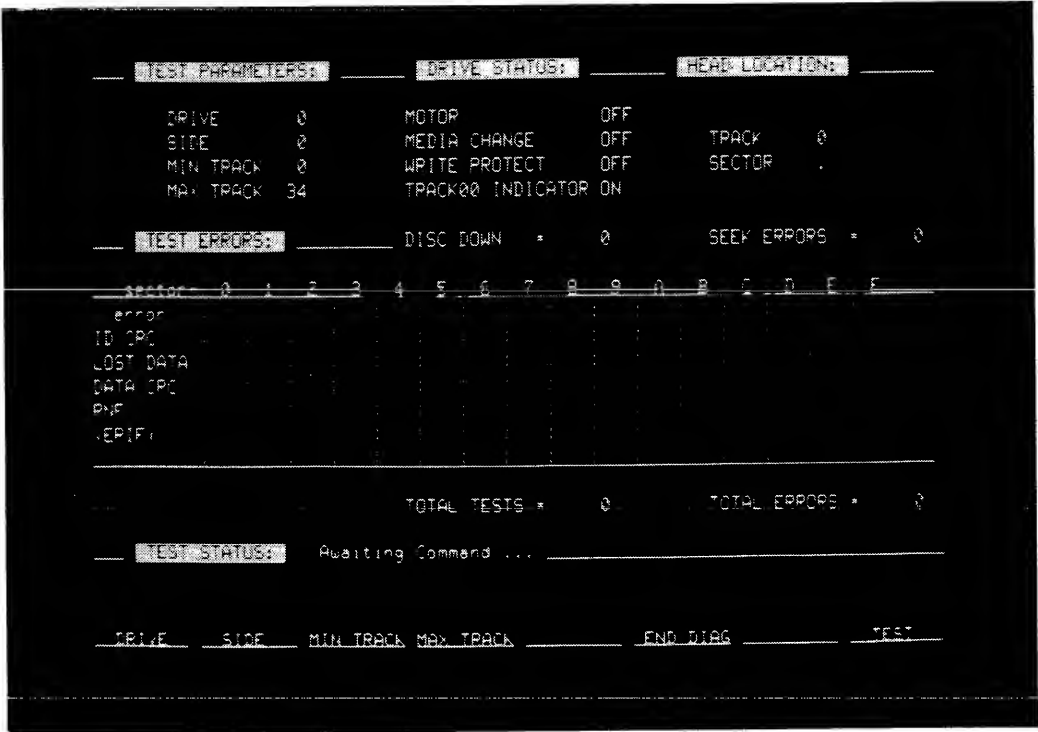

Figure 3-3. Floppy Test Menu First Level
- c. With the FLOPPY DISC DIAGNOSTIC displayed, press the DIAG softkey to get into the first level of the floppy menu. Refer to figure 3-3.
3-13. The floppy disc diagnostic test uses two levels of floppy menu. The first level allows the user to set the Diagnostic test parameters by pressing the four softkeys (see figure 3-3). These are:
3-14. The DRIVE STATUS will be displayed in the first level also (see figure 3-3). These are: